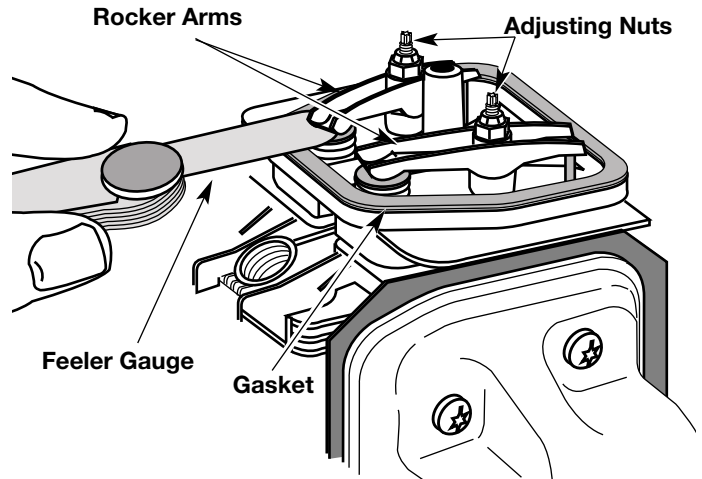

Fig. 53
- Slide the feeler gauge between the rocker arm and the valve return spring. Measure the clearance between the valve stem and rocker arm (Fig 53). Do both intake and exhaust valves.
- Turn the adjusting nut using a 5/16 inch (8 mm) wrench or nut driver (Fig. 53).